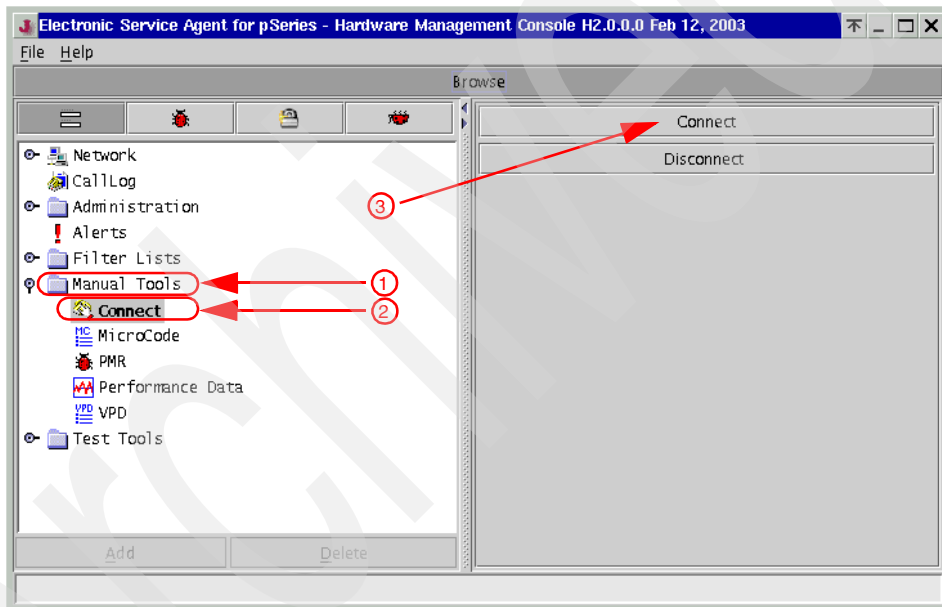

Figure 12-5 Service Agent: testing the dialer
1. Click **Manual Tools** in the Navigation area in the Service Agent window (number 1 in Figure 12-5), then click **Connect** (number 2).
2. The window shows Connect and Disconnect buttons in the right pane as shown in Figure 12-5. Click the **Connect** button (3 in Figure 12-5).